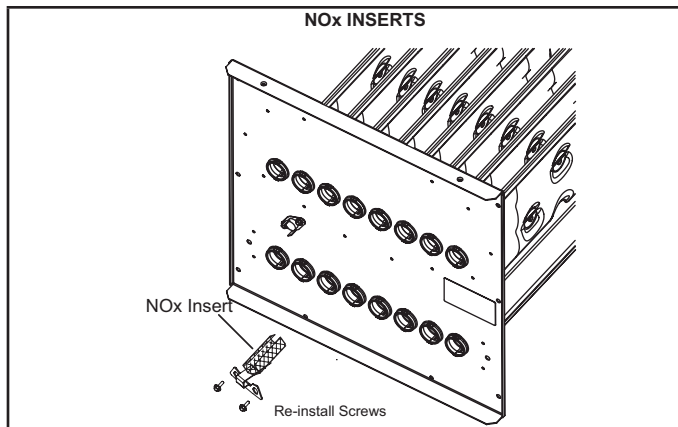

FIGURE 1
- 7 - ML180(X), EL180(X) and 80AF1(X) NOX units being converted from natural to LP /Propane.
- b - Remove the screws which secure each of the NOx inserts to the clamshell. Remove the NOx inserts and reinstall the screws. See figure 1.